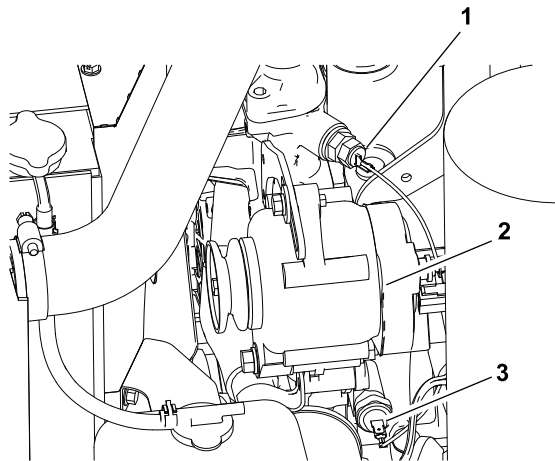

Figure 20
- D. High temperature shutdown switch, alternator, and low oil pressure switch; refer to Figure 20.